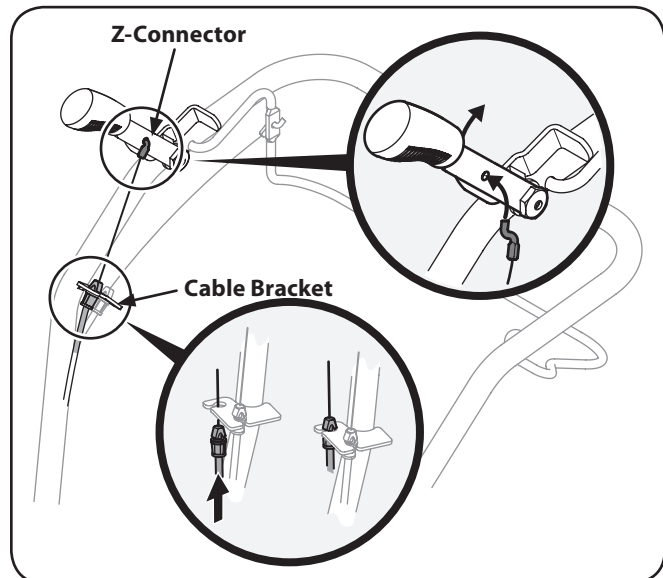

Figure 3-7
- Carefully unwrap the reverse clutch cable (Red end fitting) from its shipping position. Pull the cable up through the top hole of the cable bracket and push the cable connector up through the hole until the groove in the connector snaps into place. See Figure 3-7.
- Place the Z-connector into the hole in the reverse clutch handle assembly from the inside of the handle to the outside. See Figure 3-7.